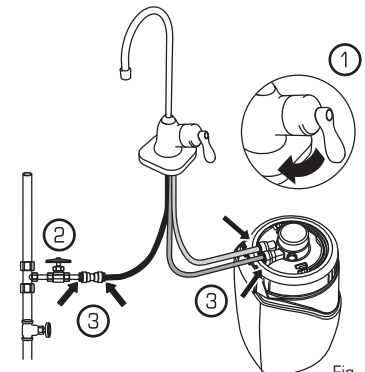

Fig. 25
7. **Open** the **eSpring** Faucet (1). **Open** the water supply shut-off valve to start water flowing through the Water Purifier (2) (Fig. 25).
8. **Turn off** the **eSpring** Faucet and check for any signs of leakage at all tubing connections (3) (Fig. 25). If there is leaking or bubbling, refer to Troubleshooting, p. 7.
Tubing not inserted far enough.	-Remove tubing, p. 9, Fig. 32. -Mark tubing, p. 5, Fig. 25. -Install tubing, p. 5, Fig. 27.